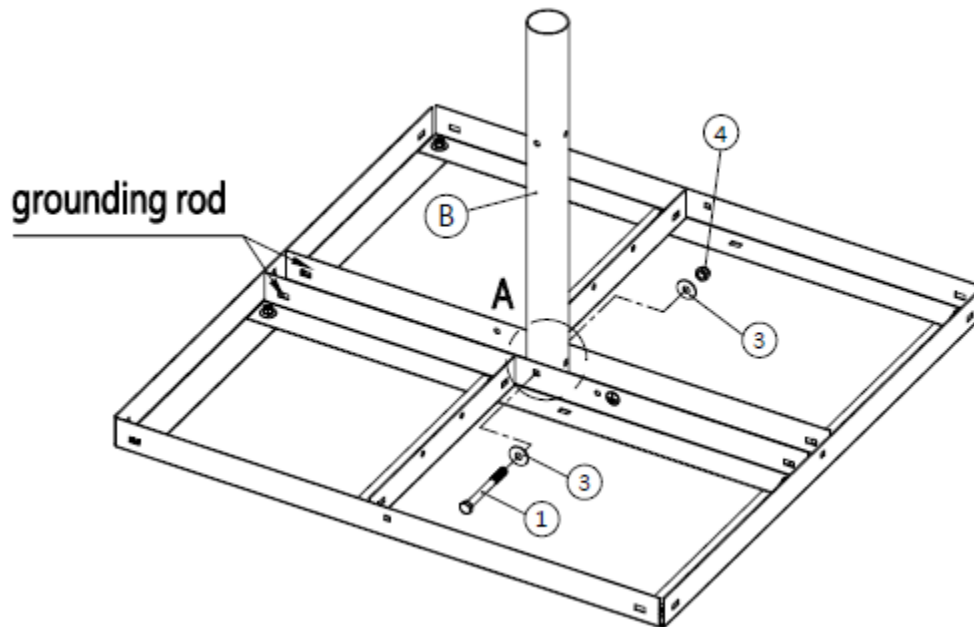

Figure 32: Installing the mast pole
- Place the mast pole (B) upright in the center of the base, as shown in Figure 32, and connect it to the base using a hex-head cap screw (1). Secure the screw using two washers (3) and a nylon nut (4) as indicated in Figure 32.